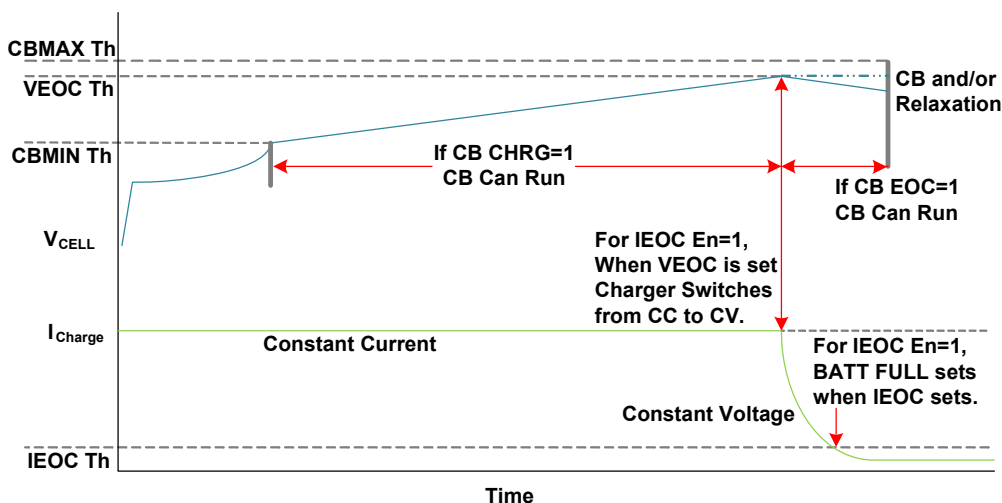

Figure 108. A Typical Charge Characteristic Curve
The ISL94216 has features that support both Constant Current (CC) and Constant Voltage (CV) charging. A typical charging profile for a battery cell is depicted in Figure 108. Cell balancing can occur only when the cell voltage is between the CBMIN and CBMAX limits, which are independent of CB EOC and CB CHR G bit settings.